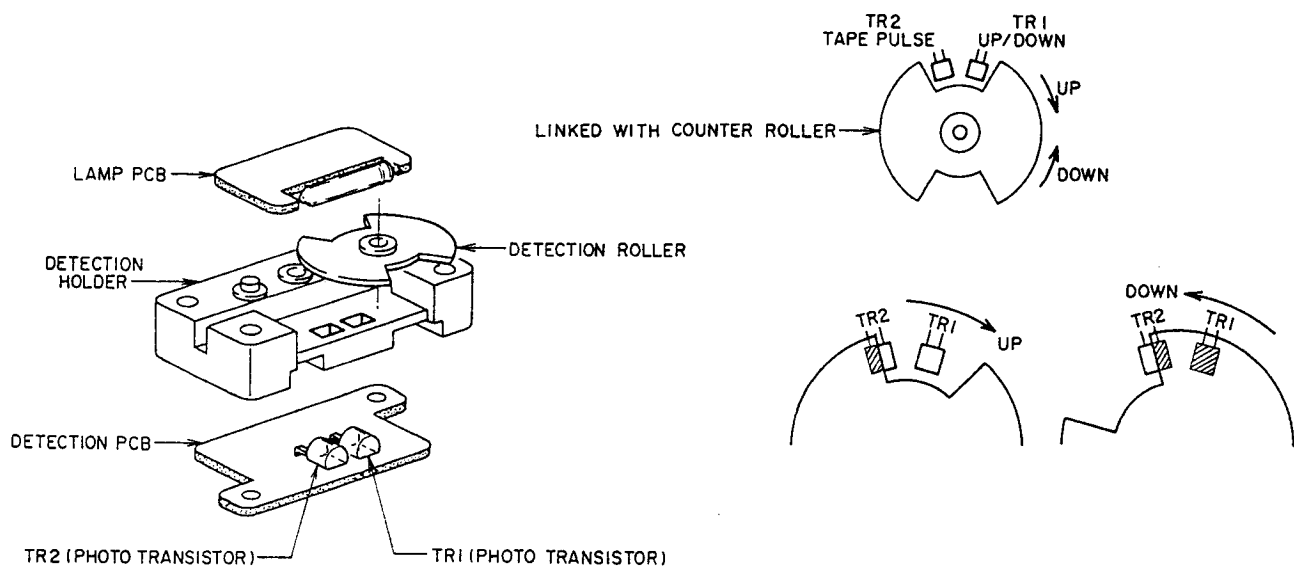

Fig. 25
3) COUNTER Operation (Refer to Figs. 25, 26)